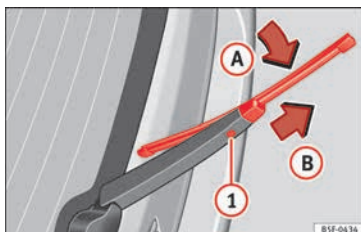

Fig. 82 Changing the rear wiper blade
- Turn the blade slightly » **Fig. 82** (arrow **A**).
- Hold down the release button **❶** while gently pulling the blade in the direction of arrow **B**.
- Insert a new blade of the **same length and type** in the rear wiper arm in the opposite direction to the arrow **B** and hook into place button **❶**.